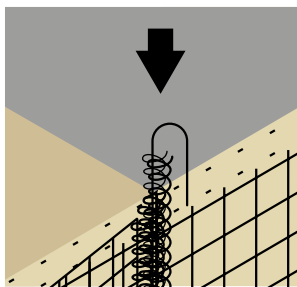

Figure 9
- Close the repair panel tight. Interlink the coil on the opposite side and fit a pin (*Figure 9*).